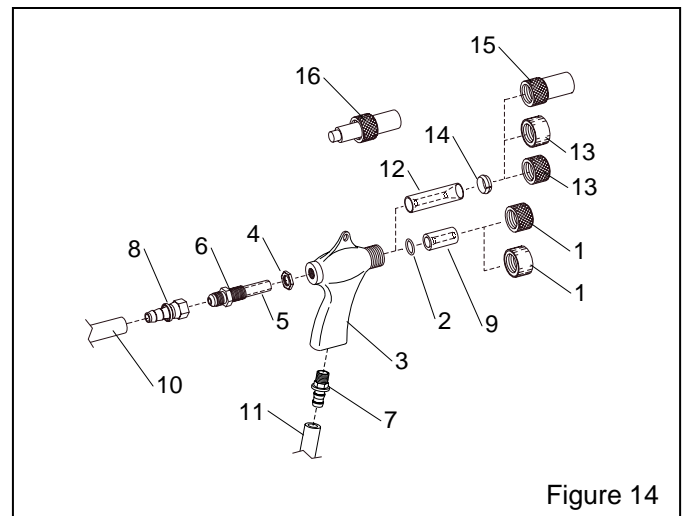

Figure 14
**8.2 BNP Gun and Feed Assembly, Figure 14**